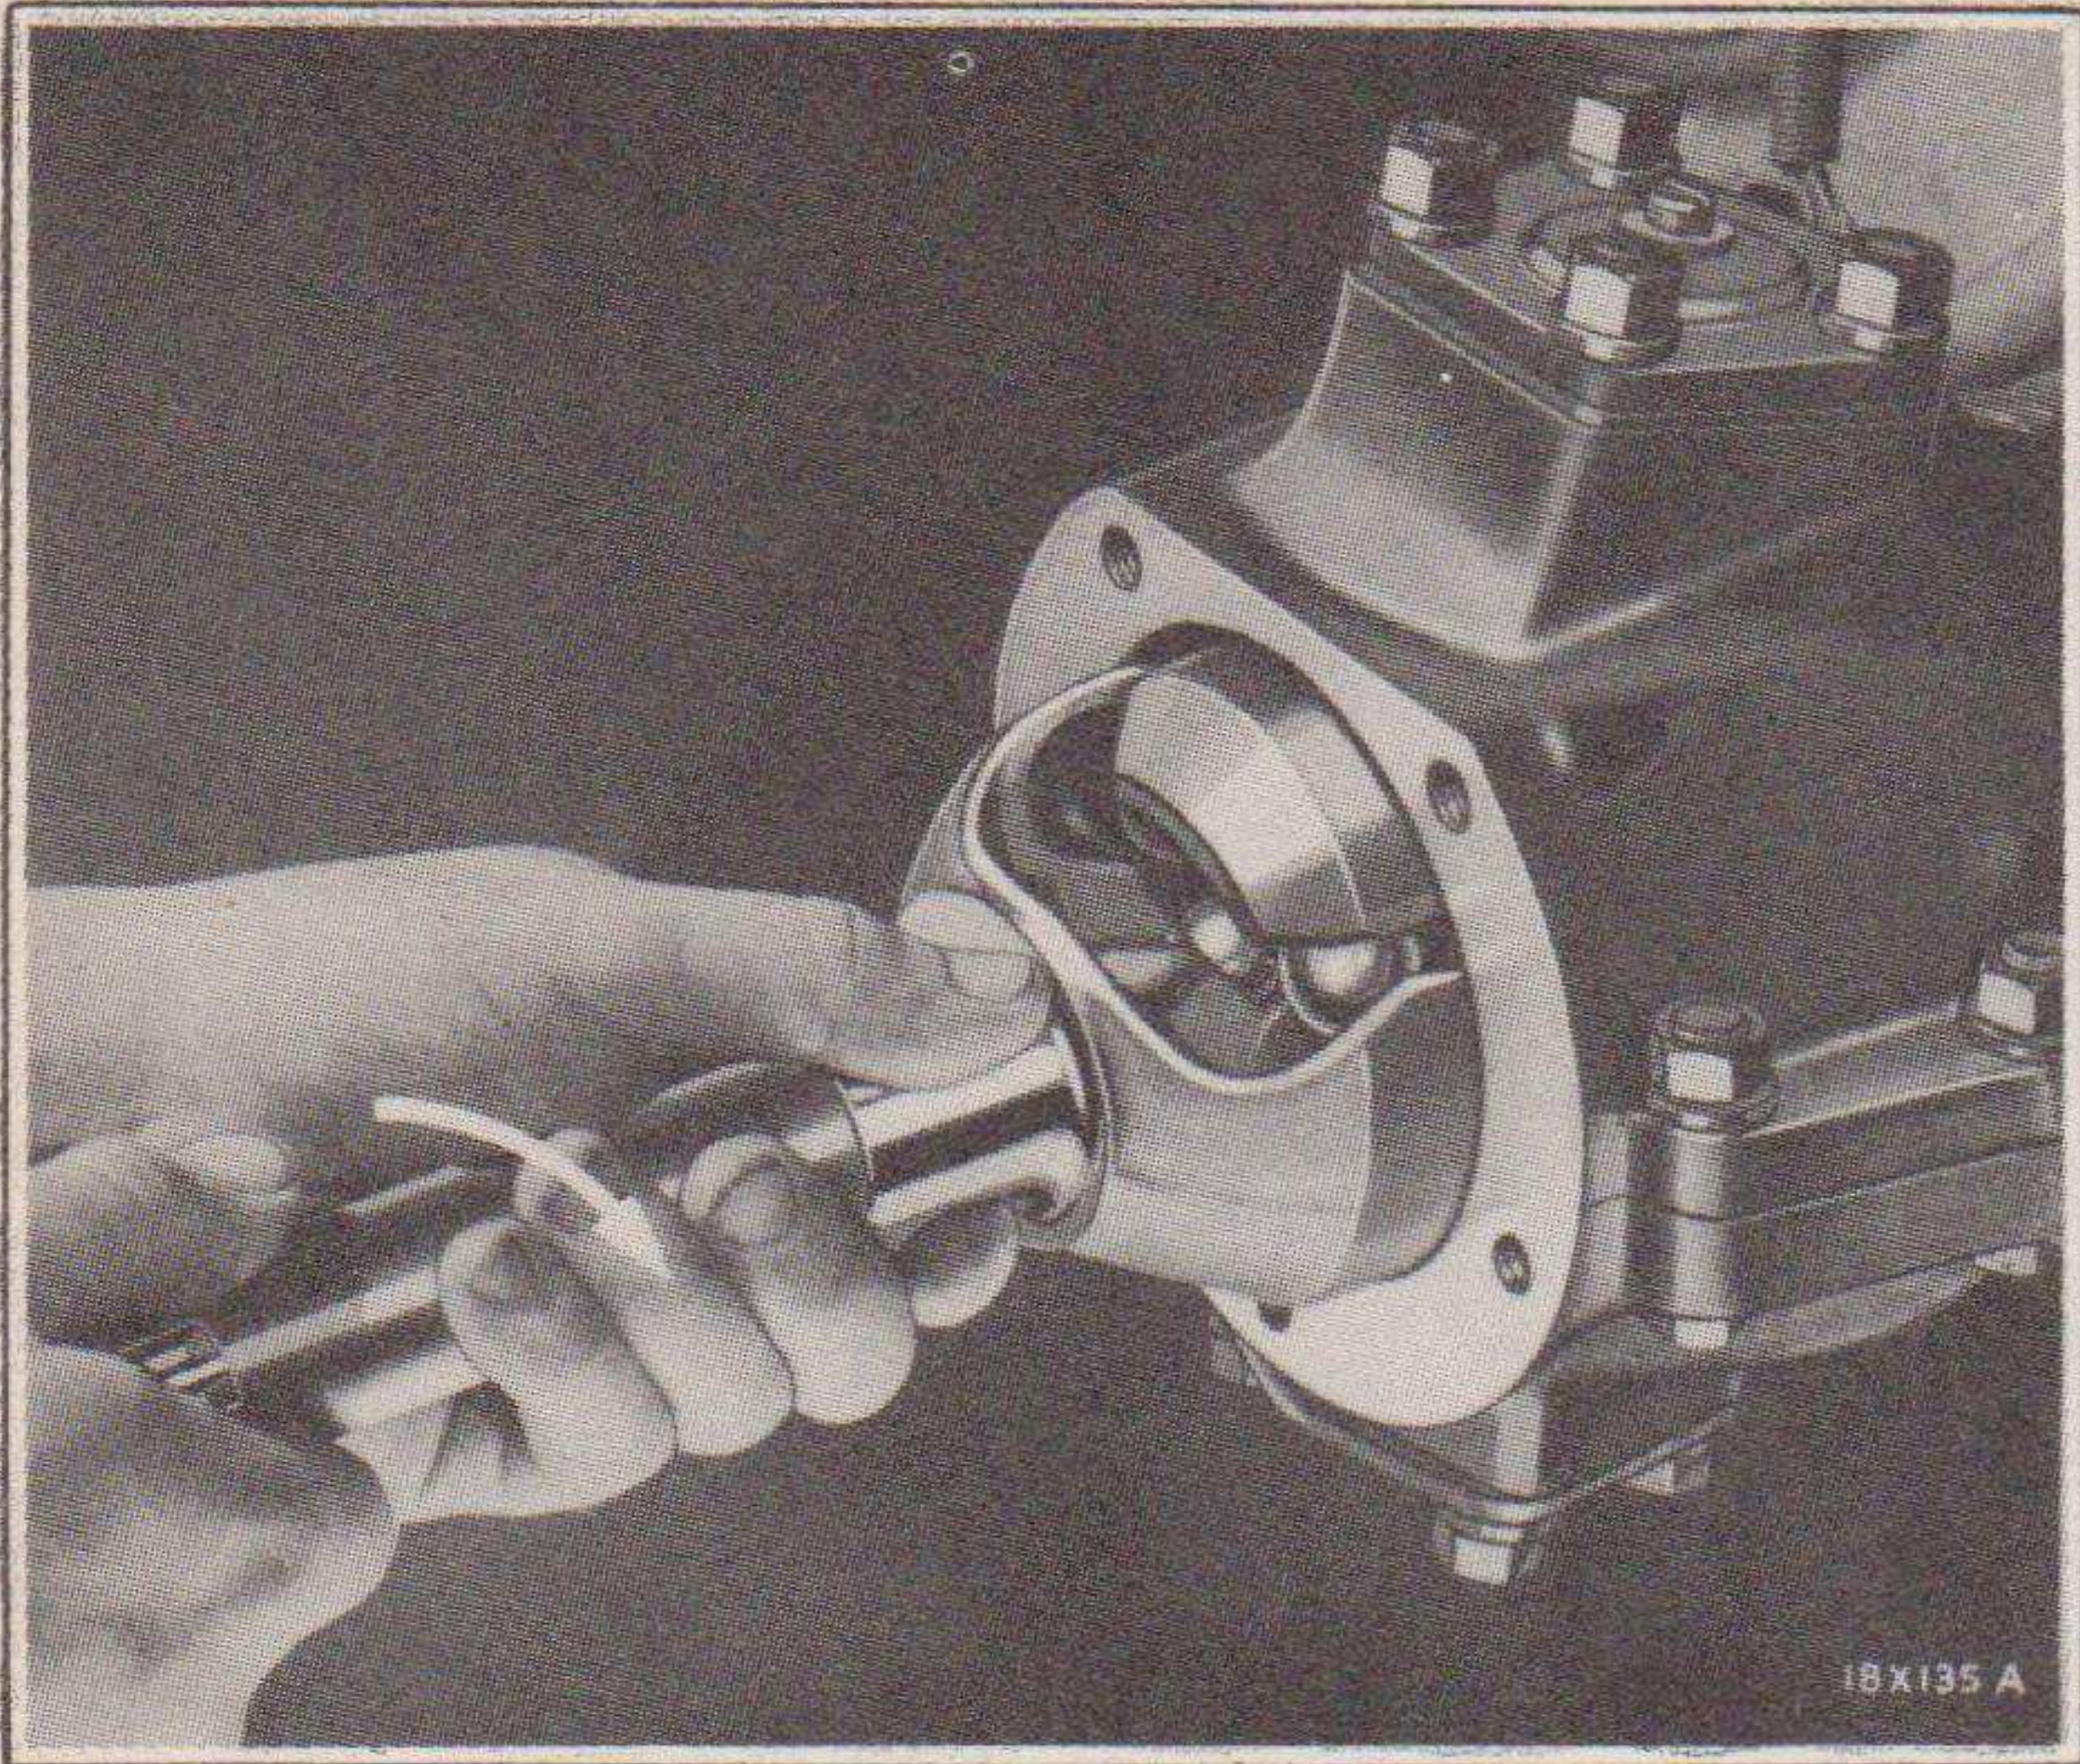

Fig. 13—Removing Universal Drive Assembly
sure each steering knuckle flange is straight with the axle housing or in the normal position with the road wheels straight ahead. To prevent possibility of universal joint coming apart when being removed from axle housing, twist the shaft as it is being withdrawn as shown in Fig. 13.
- (f) With the steering knuckle flange straight with the axle housing or in the normal position with the front wheels straight ahead, pull out the universal drive assembly with a twisting motion as shown in Fig. 13.